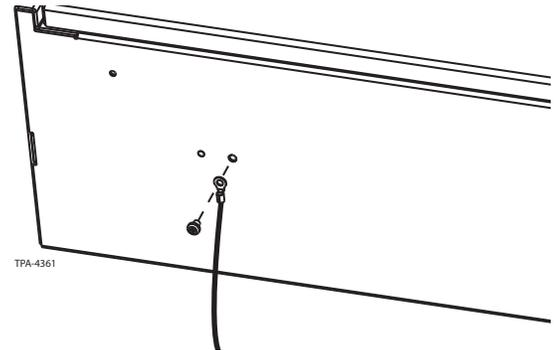

Figure 16
- Step 2:** Attach the other end of the ground wire lead to the primary building ground according to standard company practices and local codes (Figure 16).